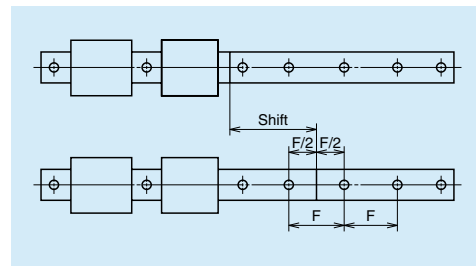

Fig. 10.26
- The pitch of the rail mounting hole on the butting section should be as  $F$  in Fig. 10.26.